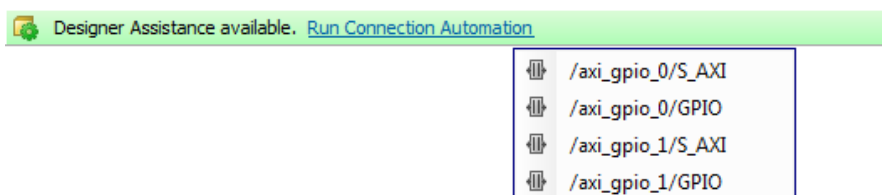

Figure 2.11: Run Block Automation - GPIOinstance 1
- (g) Click **Run Connection Automation** from the *Designer Assistance* message at the top of the *Diagram* window and select **/axi_gpio_0/S_AXI**, as shown Figure 2.11.